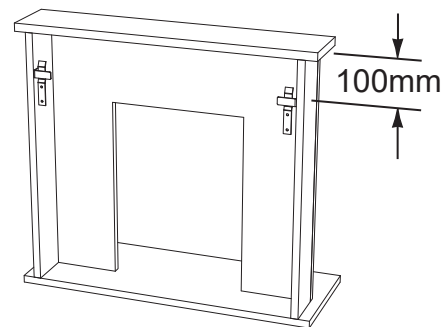

Fig.3
2. Screw the 2 mantel brackets (B) to the inside of each leg using the 4 screws provided (D - **16mm**), making sure that the brackets are flush with the rear of the leg. See **Fig.3&4**